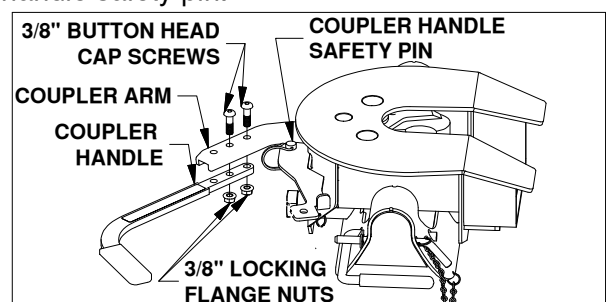

Figure E1: View looking down at side of coupler.
1. **Open coupler.** Locate the two 3/8" x 1-1/4" button head cap screws and the two 3/8" flanged lock nuts provided in a bolt bag. Pull out the coupler arm and pin it with the safety locking pin near the base of the arm, as shown in Figure E1.
2. **Secure handle.** Using the button head cap screws and the lock nuts, attach the coupler handle to the arm and tighten, see Figure E1. Pull out the coupler handle safety pin.